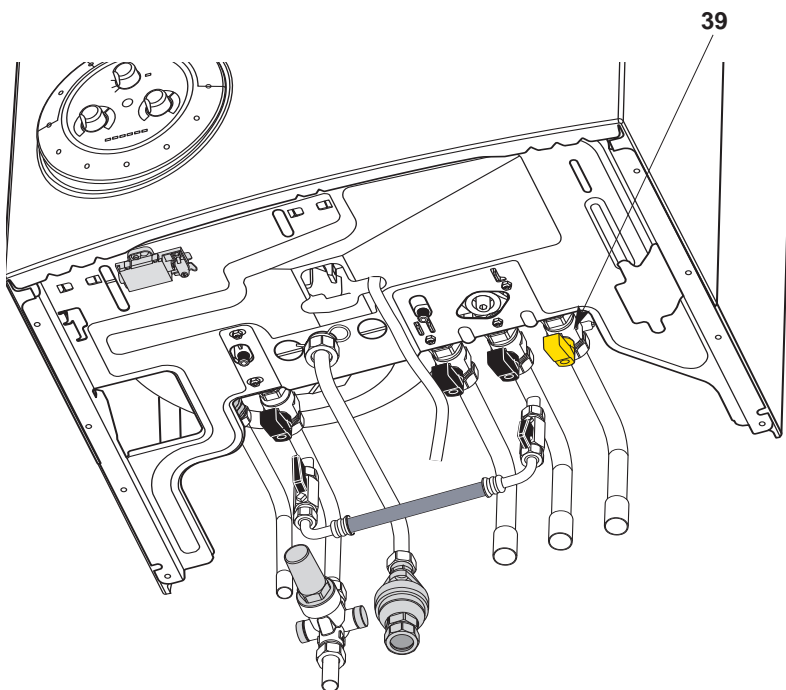

FIG. 3.3
2. Check that the gas service tap **39** (Fig. 3.3) is opened (Figs. 3.1 and 3.2) and that the mains power is on, the green indicator **29**  will light. The boiler is now ready to use.